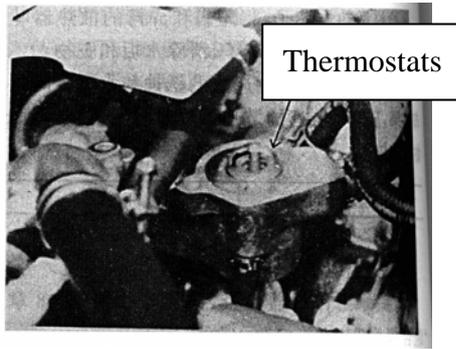

FIG.7-15
- 1) Install thermostat to intake manifold (FIG.7-15)